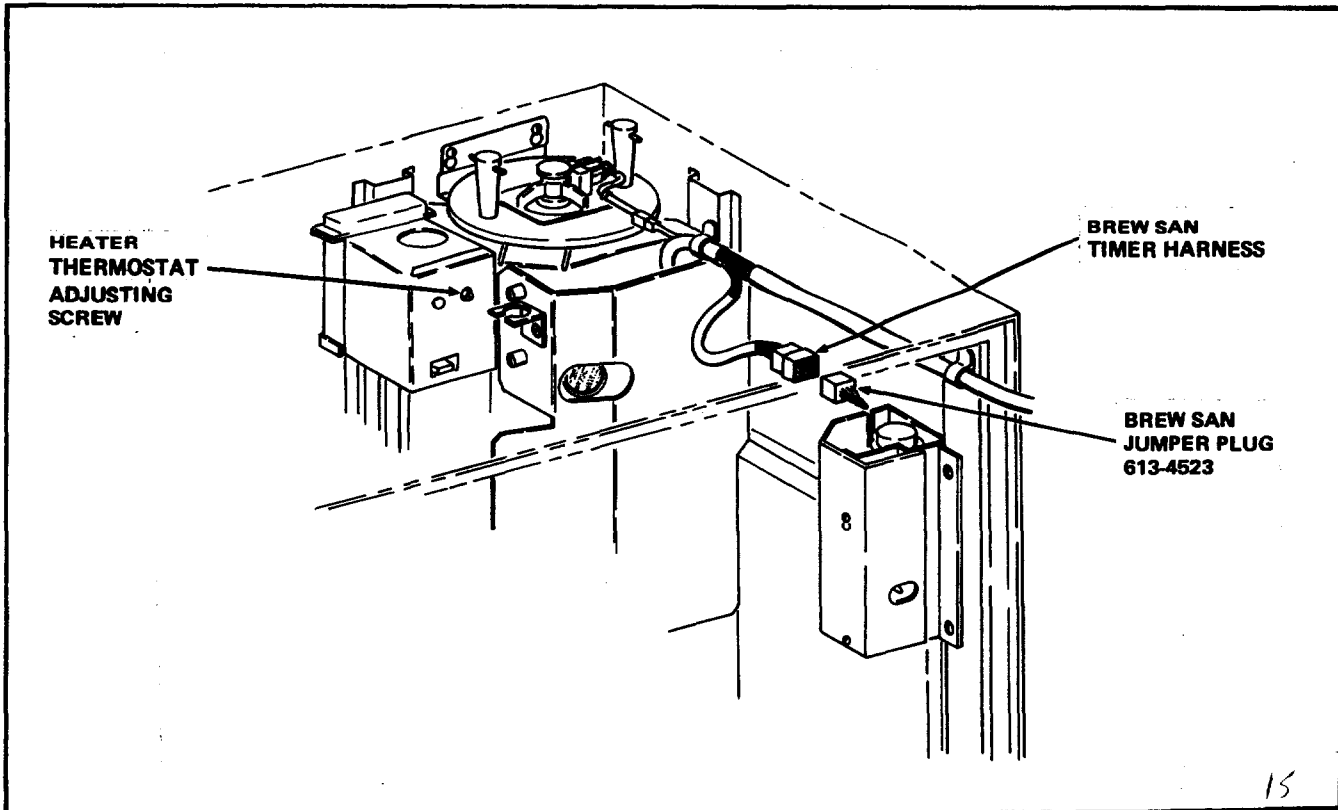

FIGURE 15
1. Disconnect the Brew San Timer Harness from the Brew San Cleaning Mechanism. See Figure 15.
2. Connect the Brew San Jumper Plug, Part Number 613-4523, included in the Kit, to the Brew San Timer Harness. See Figure 15.
Turn the Screw on the Heater Thermostat counter clockwise, to the lowest possible setting (approximately 185°F). See Figure 15.